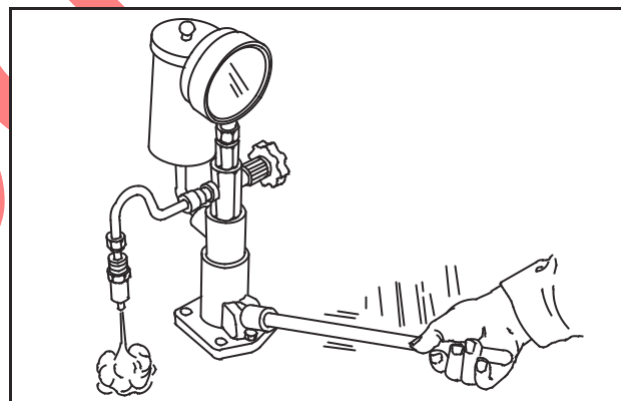

Fig. 14 – Checking Injector
1. With injector installed on a nozzle tester, operate the handle rapidly several times to clean off any carbon deposits on the injector port, Fig. 14.